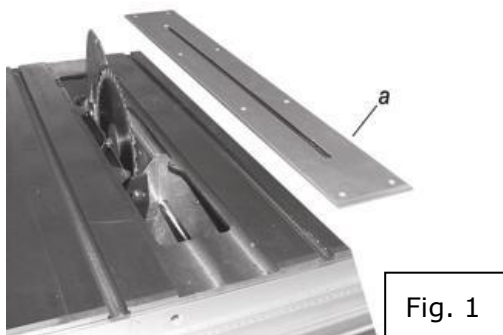

Fig. 1
- The 8 screws of the table insert (a) remove and remove it. -Fig.1-